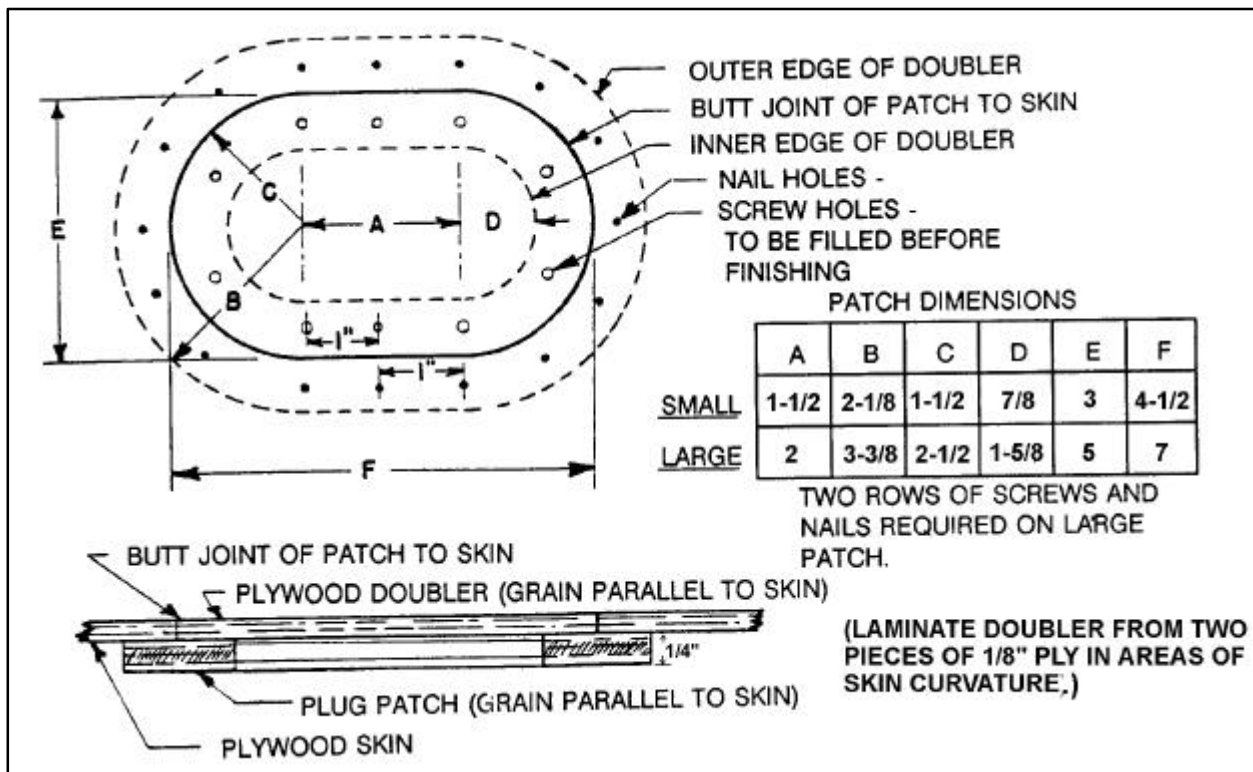
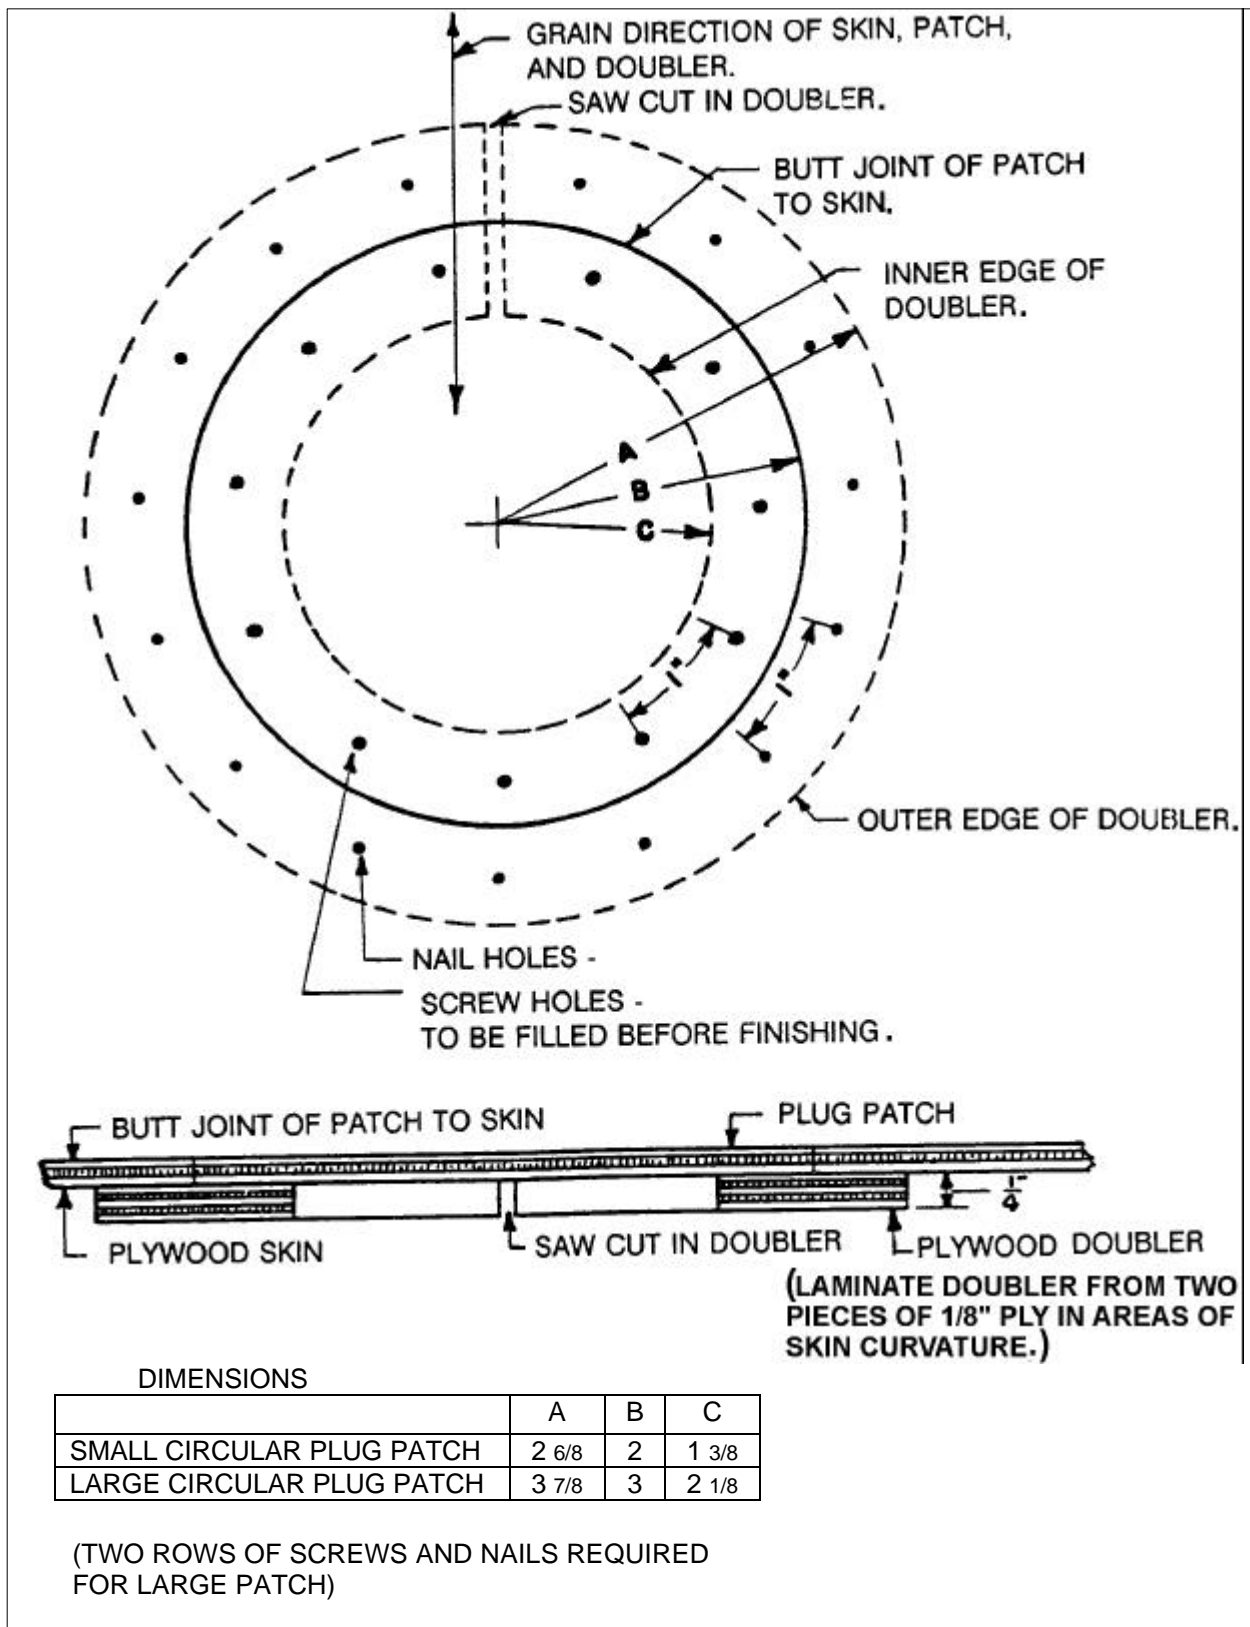

FIGURE 1-17. Oval plug patch assembly.
FIGURE 1-18. Round plug patch assembly.
d. Plug Patch. Either oval or round plug patches may be used on plywood skins provided the damage can be covered by the patches whose dimensions are given in figure 1-17 and figure 1-18. The plug patch is strictly a skin repair, and should be used only for damage that does not involve the supporting structure under the skin. The face-grain direction of the finished patch must match the surrounding skin.
(1) Steps in making an oval plug patch are as follows:
doubler from a rib or a spar. Refer to figure 1-17 for repair details.
(b) Prepare a patch and a doubler of the same species plywood as the surrounding skin using the dimensions shown in figure 1-17.
(2) Round plug patches may be made by following the steps in figure 1-18. The steps are identical to those for making the oval patch except for the insertion of the doubler. In using the round patch, where access is from only one side, the round doubler cannot be inserted unless it has been split.